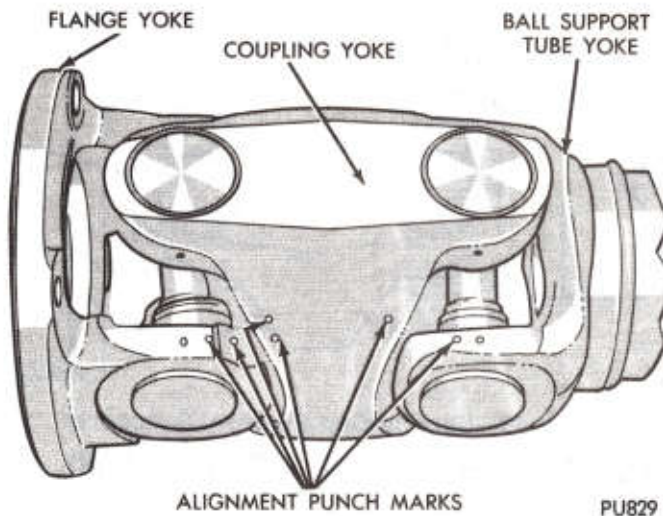

Fig. 14—Showing Alignment Punch Marks
(2) Mark all yokes before disassembly so that they can be reassembled in their original relationship to retain propeller shaft balance. See Figure 14 for marking method.